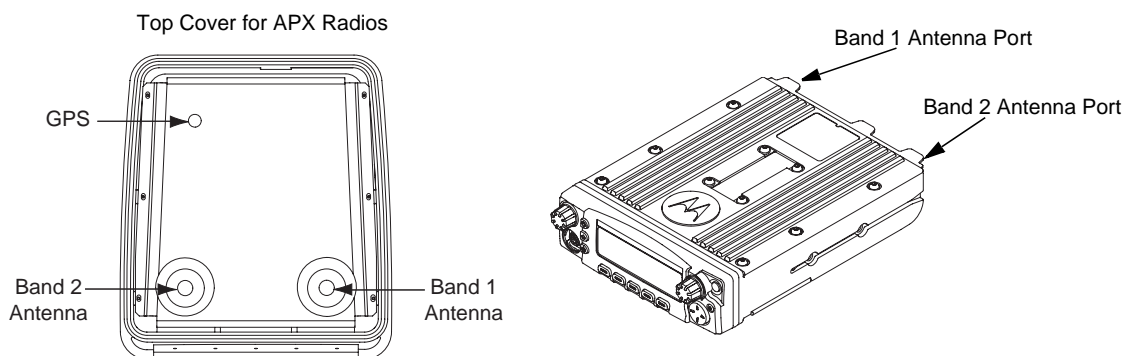
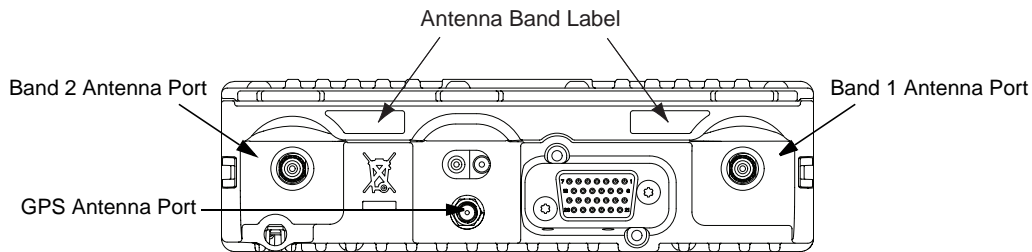
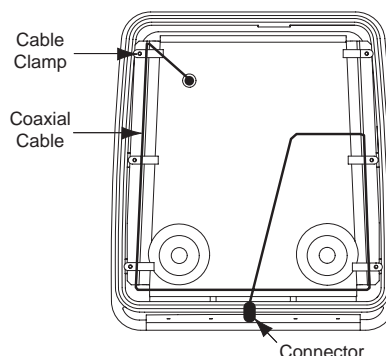

Figure 5-8. Location of Band 1 or Band 2 (Depending on the Antenna Port They Align to)
Figure 5-9. Antenna Band Identification
Figure 5-10. Routing the Coaxial Cable for GPS
5. Locate the two round, depressed areas about 3 inches in diameter in the metal liner near the enclosure hinge. Referring to Figure 5-8, these areas are either Band 1 or Band 2 depending on the antenna port they align to. Refer to band markings on radio for the proper antenna port location. For the GPS antenna, use the 5/8" hole near the front of the housing near the lock.
- **Single Band** – Refer to your APX radio (see Figure 5-9) and see if your single band antenna is in the position of Band 1 or 2. Depending on which location your antenna port is mark a hole in the appropriate antenna position only. Refer to Figure 5-8.
- **Dual Band** – Mark a hole in both the Band 1 and Band 2 Antenna position as seen on Figure 5-8.
- **GPS** – Mark a hole in the GPS Antenna position as seen on Figure 5-8.
11. Reinstall the APX metal liner (see Figure 5-8) with the cable clamps provided in the weather-resistant housing. If installing GPS, the GPS coaxial cable must be fed through the hole in the APX metal liner before the liner can be placed onto the housing. Then route the GPS Coaxial Cable through the cable clamps before tightening the hex screws as installing the cable after that is difficult due to the connector. See Figure 5-10 for GPS Cable Routing.